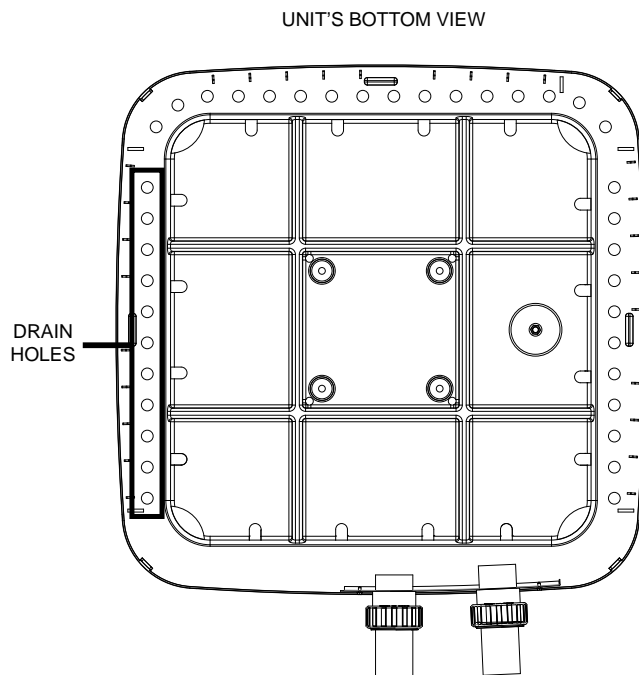

Figure 60. Condensate Drain Hole Locations
1. Routinely check to be sure the condensation drain holes in the base of the unit are not plugged with dirt or debris. See Figure 60 for condensate drain hole locations.